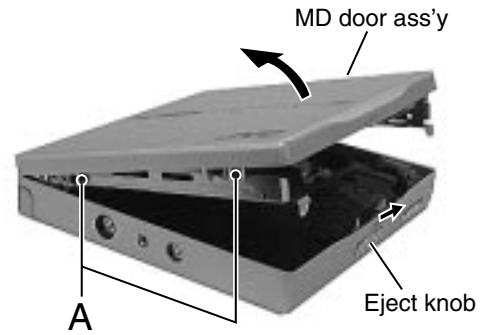

Fig.1
■ Removing the MD door ass'y (See Fig.1 and 2)